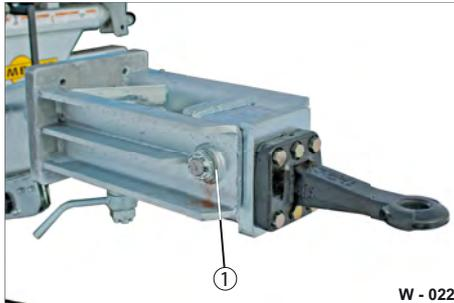
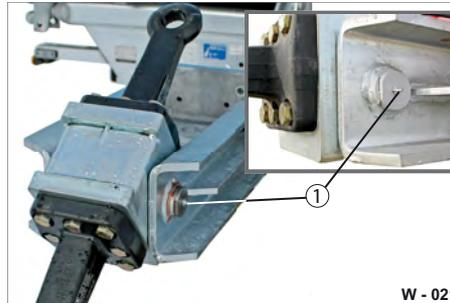

Fig. 21 Lubricating rotatable towing eye
Fig. 22 Lubrication point
- ▶ If necessary, remove grease from the lubrication nipple (Fig. 22/1). Clean the grease nipple with a clean, dry cloth.
- ▶ Lubricate the swivel axis (Fig. 21/1) on the lubrication nipple (Fig. 22/1) with a grease gun until lubricant escapes.